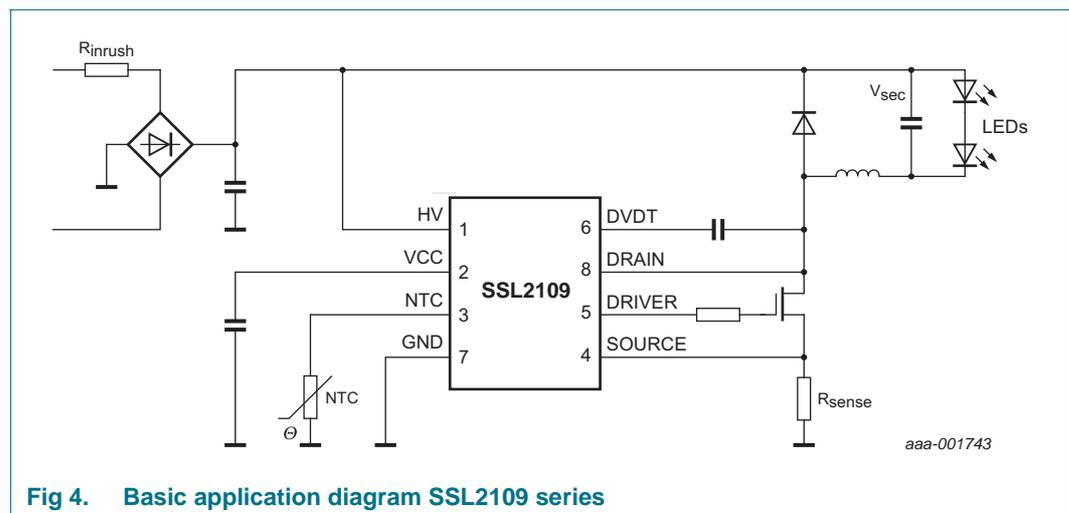
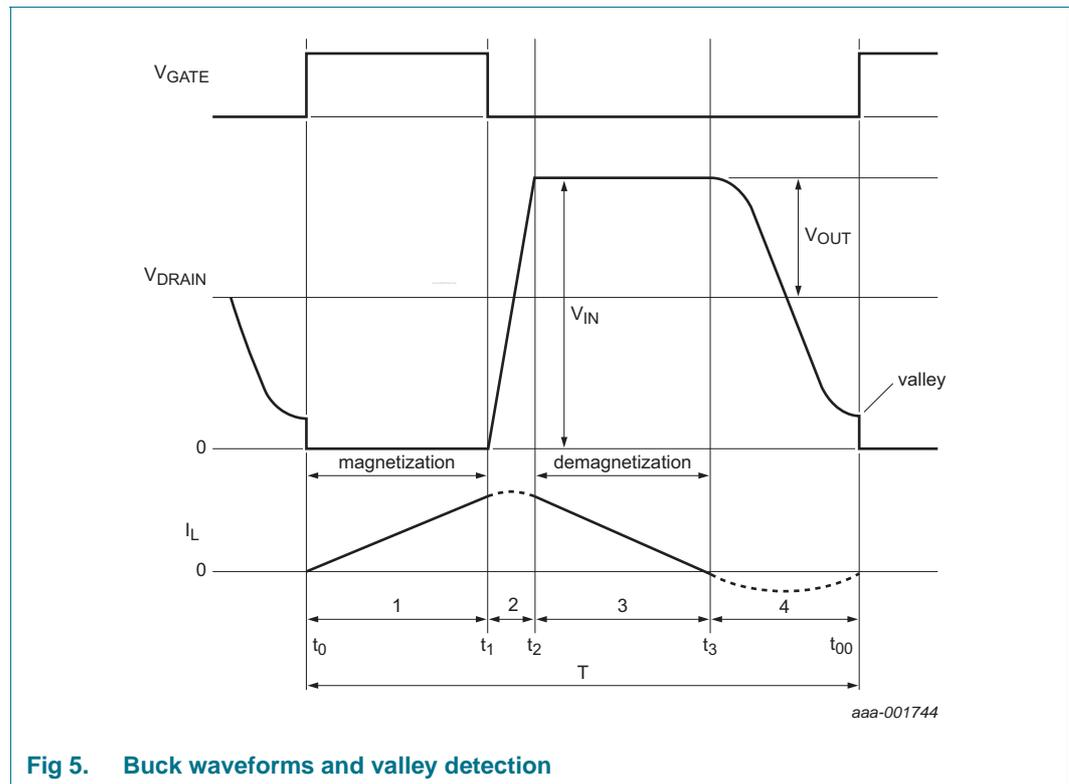

Fig 4. Basic application diagram SSL2109 series
Fig 5. Buck waveforms and valley detection
- Low component count (see Figure 4) LED driver solution:
The converter in the SSL2109 series is a Boundary Conduction Mode (BCM), peak current controlled system. For the basic application diagram see Figure 4, for the waveforms see Figure 5. This converter type operates at the boundary between continuous and discontinuous mode. Energy is stored in inductor L each period that the switch is on. The inductor current  $I_L$  is zero when the MOSFET is switched on. Thereafter, the amplitude of the current build-up in L is proportional to  $V_{IN} - V_{OUT}$  and the time that the MOSFET switch is on. When the MOSFET switch is switched off, the current continues to flow through the freewheel diode and the output capacitor. The current then falls at a rate proportional to the value of  $V_{OUT}$ . The LED current  $I_{LED}$  is almost equal to half the peak switch current. A new cycle is started, as soon as the inductor current  $I_L$  is zero.
A new cycle is started when the primary switch is switched on (see Figure 5). In the following sections, “on” represents the conductive state and off the non-conductive state.